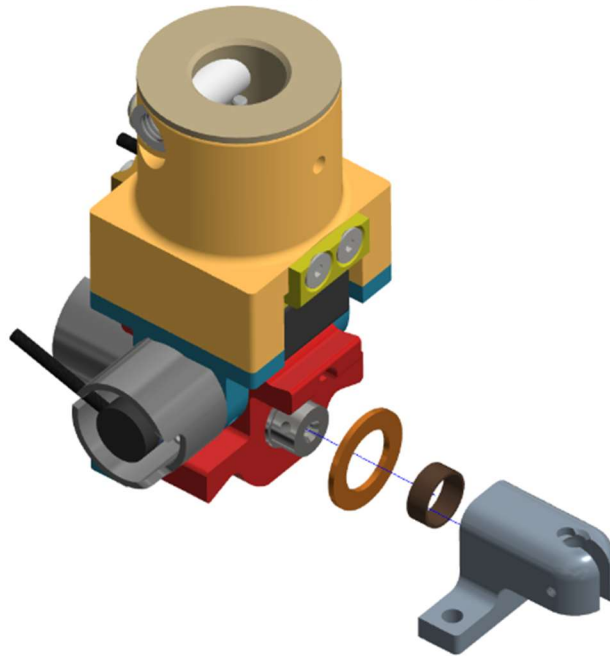

Figure 10-46. Achilles cable retainer
10.3.11 Slide the Achilles Cable Retainer (474-5828) and Ankle Thrust Washer (474-5720) on to the Ankle Center Block Assembly (474-5824-A) (Figure 10-46).